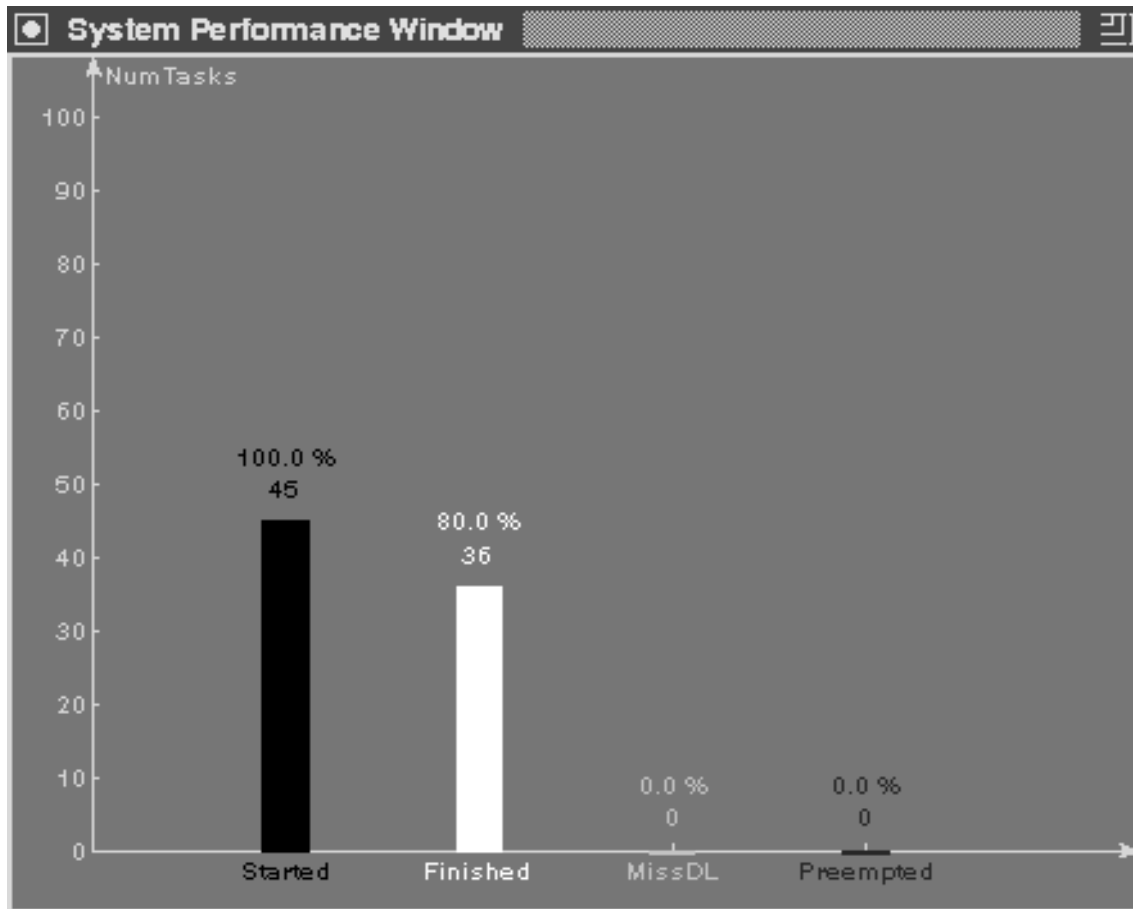

Figure 9: System Performance Window of the Simulator
- **PERFORMANCE** is a command button. Before the simulation is started, it yields a menu, so that a user can select what information is displayed in the system performance window after the simulation is started. During the execution of the simulation, this button is used to map or minimize the system performance window. This window gives an overall picture of the simulation in terms of the number and percentage of: subtasks that have started, subtasks that have finished successfully, subtasks that have missed their deadline, and subtasks that have been preempted during their execution. An example window is shown in Figure 9.